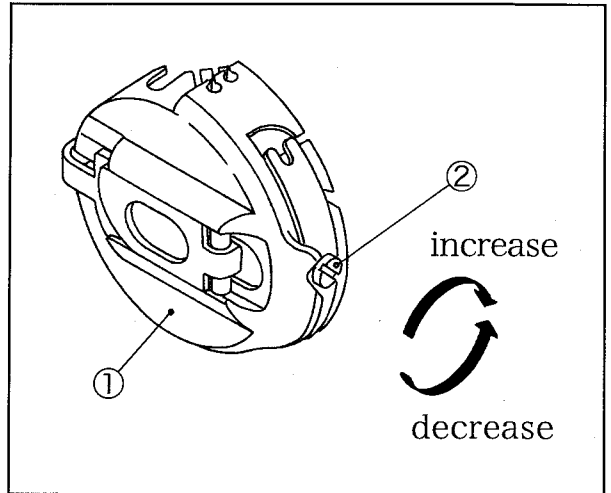

Fig.29
To adjust the under thread tension, turn the screw ② in the bobbin case ① in Fig.29.
- To increase the tension, turn the screw ② clockwise.
- To decrease the tension, turn the screw ② counterclockwise.